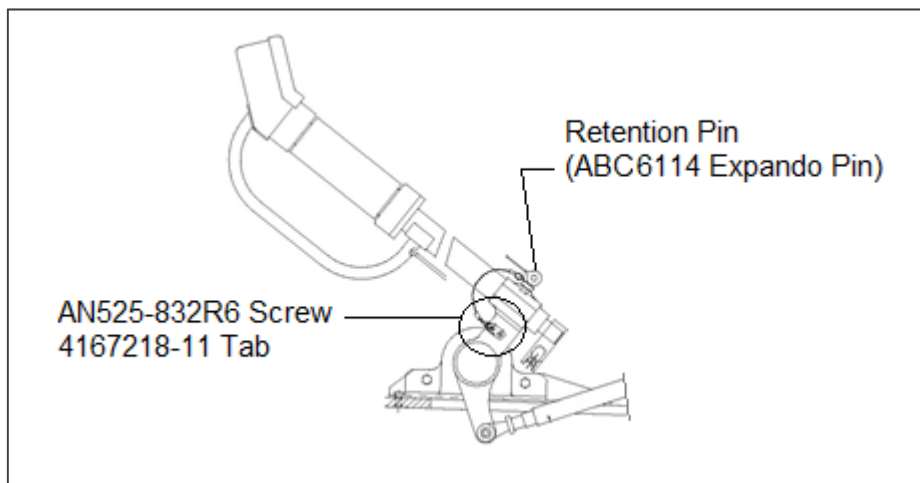

Figure 1. Former Retention Pin Lanyard Installation
- 6.4 Remove the AN525-832R6 screw and P/N 4167218-11 tab. Use care when removing hardware to avoid dropping the parts into the throttle controls (see Figure 1).